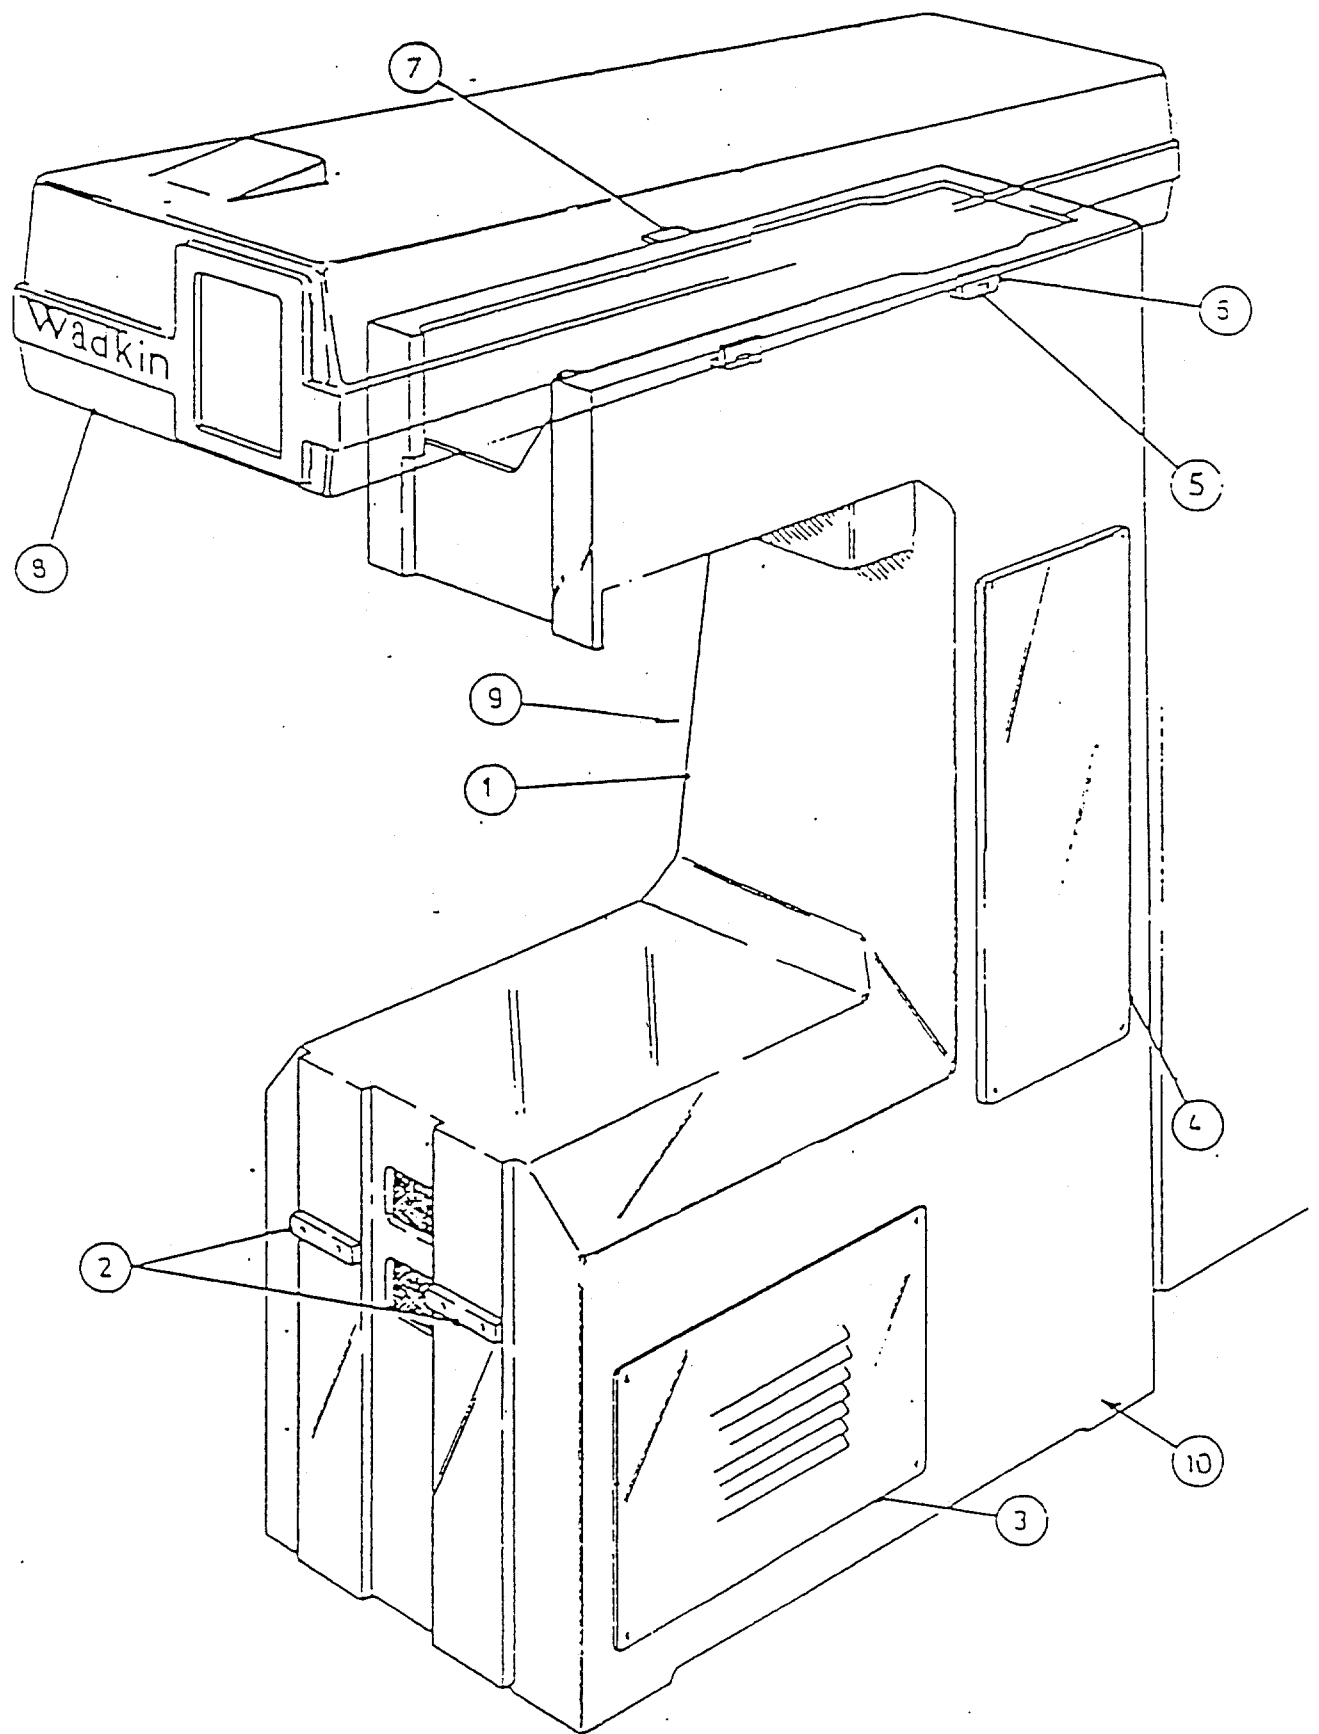

FIG. 19 MACHINE BODY
S.1 MACHINE BODY (See Fig. 19)